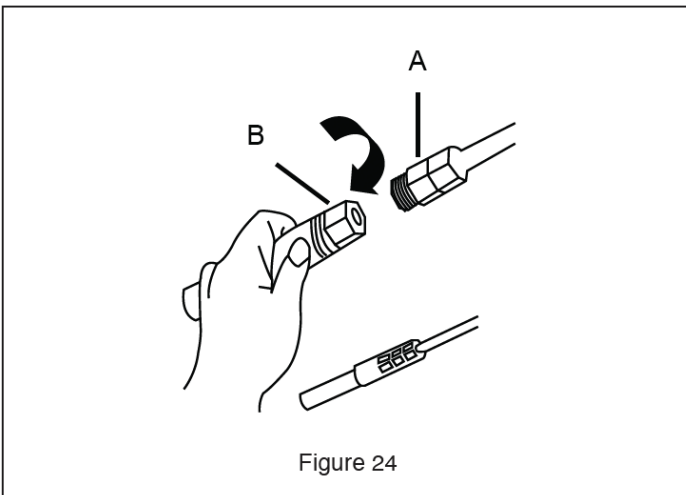

Figure 24
- 3 Connect the newly installed water supply line (B) to the refrigerator water inlet connector (A), tighten using tool. See Figure 24.